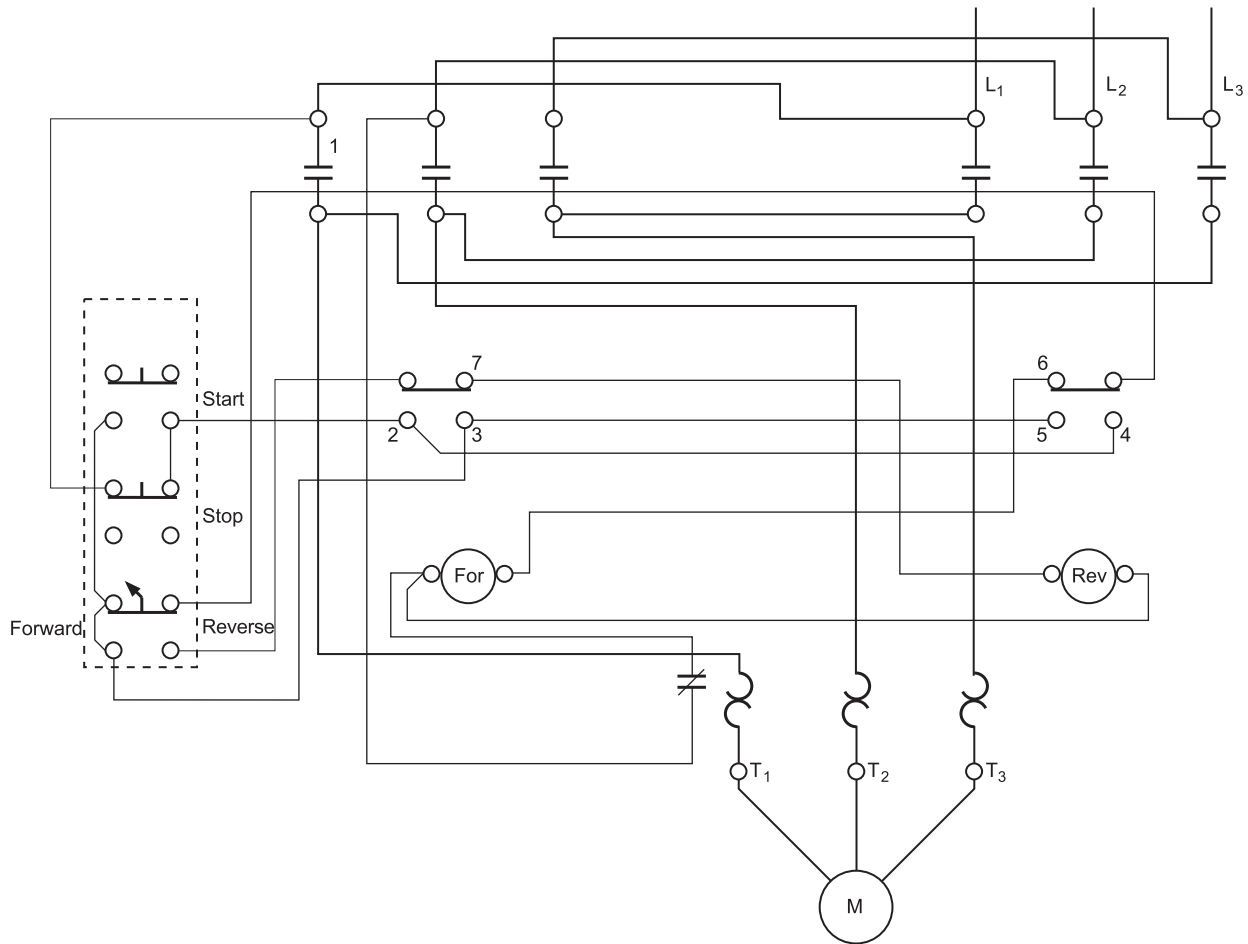

Figure 1—Wiring diagram for Question 8
8. Develop a control schematic from the wiring diagram shown in Figure 1.